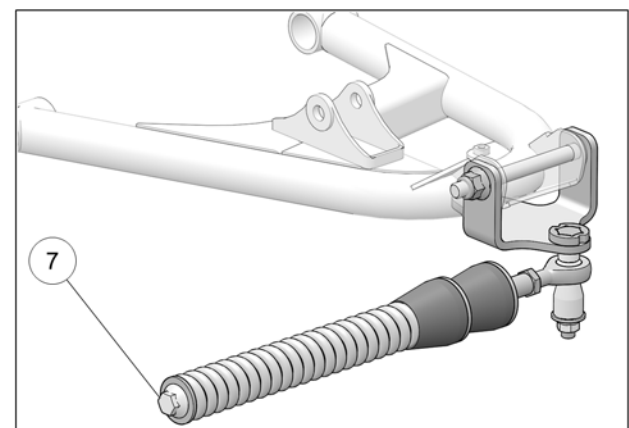

Fig. 13
- Verify that spring assembly bolt (7) is tightened to the recommended torque specification: 75 N•m [55 lb•ft]. Refer to Fig. 13